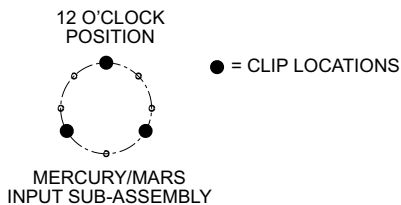

Figure 6.7.1a Location of Shroud Clips
- Remove mounting bolts from input subassembly / maincase in the following locations and install shroud clips (reference **Figure 6.7.1a**).